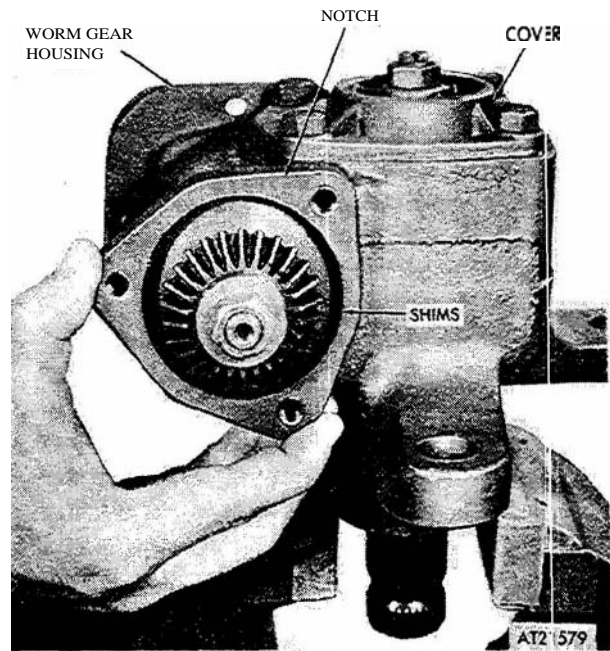

Figure 3-206. Proper installation of shims.
(5) Position screw (6) in shaft (7) and secure with washer (5) and retaining ring (4). Screw cover (2) on screw (6) and install nut (1).
(6) Position assembled cover (2), gasket (3), and shaft (7) to housing (18) and secure with screws (39). Tighten screws to 25-30 lbs. ft. torque.
(7) Check for proper number of turns of worm gear. The number of turns right or left of center should be a minimum of 3 and  $7/32$  of an inch and maximum of 3 and  $15/32$  of an inch.
(8) Position gear (21) on worm gear (11) and secure with nut (23) and washer (22). Position shims (24), with notch toward cover (2) as shown in figure 3-206. Position housing (25, fig 3-195) to housing (18) and secure with screws (34 and 37) and washers (35 and 38). Tighten screws to 22-27 lbs-ft. torque. Install plug (36).